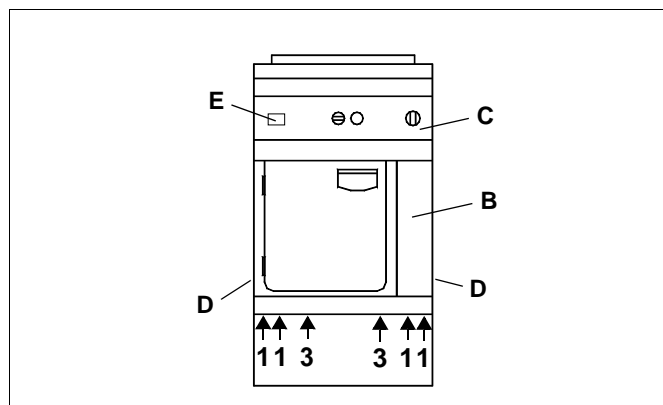

Fig.5 General view
The specification plate (E) is located in each case inside and outside on the right of the operator panel (C) (Seite 6 Fig. 5).